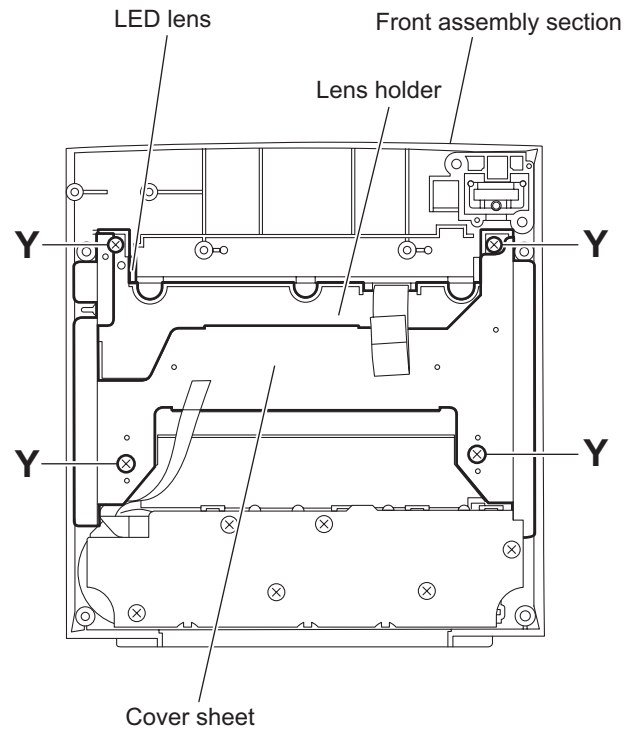

Fig.24
3.2.4 Removing the FL board (See Figs.24 and 25)
- From the inside of the front assembly section, remove the four screws **Y** attaching the lens holder. (See Fig.24.)
- Take out the lens holder with the LED lens and cover sheet. (See Fig.24.)